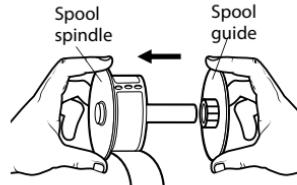

Figure 7
- 4 Hold the spool spindle in your left hand and place the label roll on the spindle so that the labels feed from underneath and the left edge of the label roll is flush against the side of the spool. See Figure 7.
- 5 Place the spool guide onto the right side of the spool and press the guide tightly against the side of the label roll, **leaving no gap** between the roll and the spool. See Figure 7.